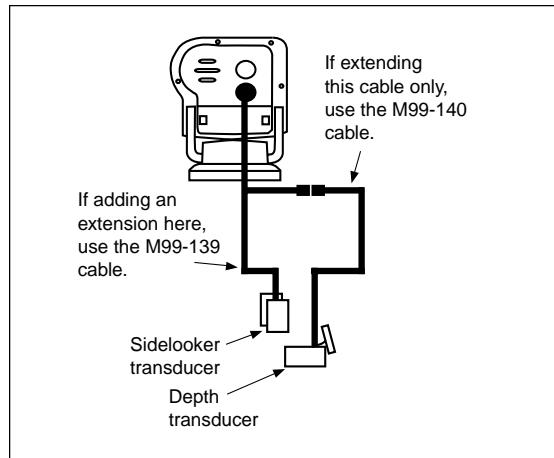

Fig. 2-14
1. If the installation includes the optional Sidelooker transducer, there will be two transducer cables. See Fig. 2-14. The cable from the Sidelooker includes a "Y" connector.